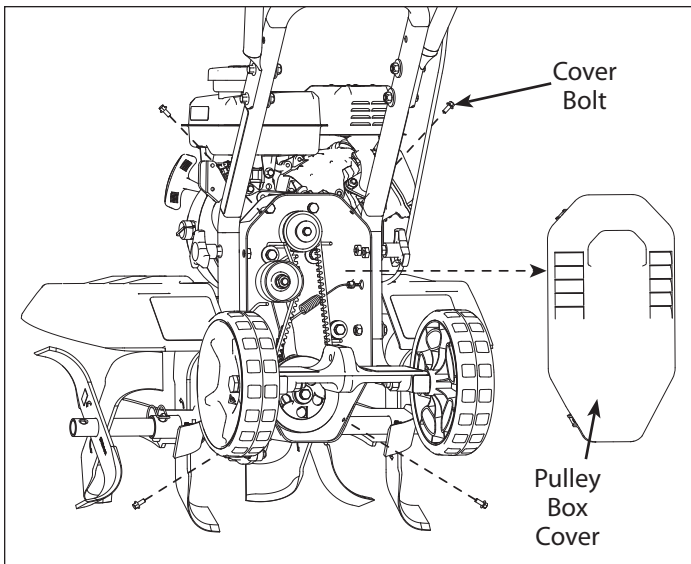

FIGURE 11
3. Remove pulley box cover by removing four cover bolts. **SEE FIGURE 11**
3. Remove pulley box cover by removing four bolts. **SEE FIGURE 11**